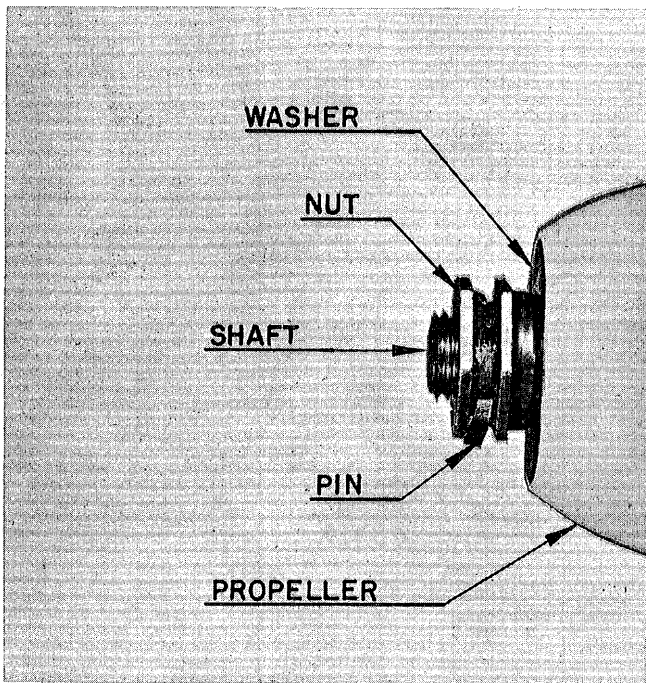

Figure 5
4. Install **PROPELLER**, propeller drive pin, propeller hub washer and propeller nut — drawing nut up snugly. Back nut off until first hole in nut aligns with propeller shaft cotter pin hole. Insert cotter pin through hole and bend ends as shown in Figure 5.